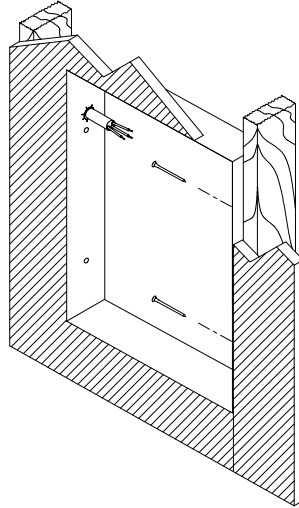

FIG. 1
- 1.Position wall box a minimum of 6 inches from adjacent wall and floor. Secure to wall stud with nails or screws. Wall box must be installed with front edge flush with finished wall surface. See figure 1.